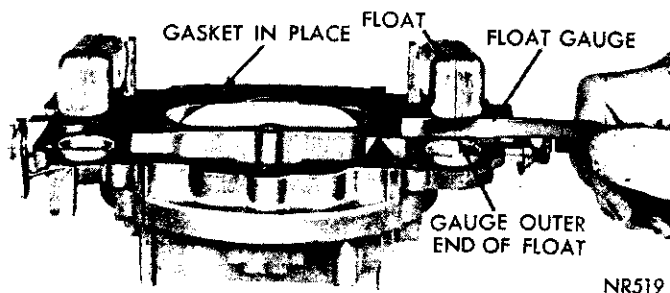

Fig. 11—Checking Float Height
(1) With air horn inverted, air horn gasket in place and float needle seated, slide float gauge (refer to specifications for carburetor being worked on) between top of the float (at outer end) and air horn gasket, (Fig. 11). Float should just touch gauge (T-109-106).